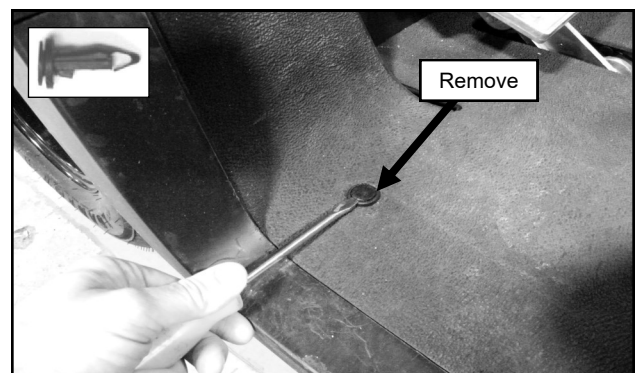

Fig. 1.7 (floor mat, remove plug - left side)
**1.7** Per figure 1.7, remove the (2) plastic plugs on the front of the floor mat and discard.